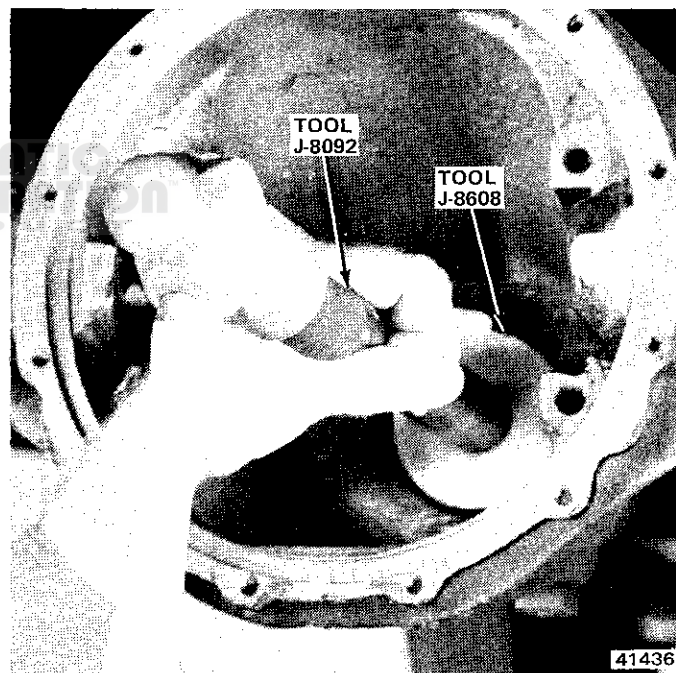

Fig. 2F-37 Pinion Rear Bearing Cup Installation
(4) Install rear bearing on pinion gear using arbor press. Install bearing so large diameter of bearing cage faces gear end of pinion and press bearing against pinion head.
(5) Clean pinion bearing bores in axle housing thoroughly. This is important to obtaining correct pinion gear depth adjustment.
(6) Install starter pinion depth shim in housing rear bearing cup bore. Be sure shim is centered in bearing cup bore.
(7) Install rear bearing cup using Driver Handle J-8092 and Cup Installer J-8608 (fig. 2F-37).
(8) Install front bearing cup using Driver Handle J-8092 and Cup Installer J-8611-01.
(9) Install pinion gear. Be sure rear bearing is seated in rear bearing cup.
(10) Install front bearing, rear universal joint yoke, and original pinion nut on pinion gear. **Tighten pinion nut only enough to remove bearing end play.**
(11) Note pinion depth variance marked on pinion gear. If number is preceded by a plus (+) sign, add that amount (in thousands) to standard setting for axle model being overhauled. If number is preceded by a minus (-) sign, subtract that amount (in thousandths) from standard setting. Result of this addition or sub-
(12) Assemble Arbor Tool J-5223-4 and Discs J-5223-23 and install assembled tools in differential bearing cup bores (fig. 2F-38). Be sure discs are completely seated in bearing cup bores.
(13) Install bearing caps over discs and install bearing cap bolts (fig. 2F-38). Tighten bearing cap bolts securely, but not to specified torque.
(14) Install Gauge Block J-5223-20 (fig. 2F-38). Position block so that plunger is directly underneath gauge arbor and flat surface on opposite side of block is seated on end face of pinion.
(15) Assemble Clamp J-5223-24 and Bolt J-5223-29 and mount on axle housing (fig. 2F-38). Use one axle housing cover bolt to attach clamp to housing.
(16) Extend clamp bolt until it presses against gauge block with enough force to prevent gauge block from moving.
(17) Loosen gauge block thumbscrew to release plunger. When plunger contacts arbor tool, tighten thumbscrew to lock plunger in position. Do not disturb plunger after locking in place.
(18) Remove clamp and bolt assembly from axle housing.
(19) Remove gauge block and measure distance from end of anvil to end of plunger using 3 inch (7.62 cm) micrometer (fig. 2F-39). This dimension represents **measured pinion depth**. Record this dimension for assembly reference.
(20) Remove bearing caps and remove arbor tool and discs from housing.
(21) Remove pinion gear, rear bearing cup, and pinion depth shim from housing.
(22) Measure thickness of depth shim used in step (10). Add this dimension to measured pinion depth obtained in step (8). From this total, subtract desired pinion depth. Result represents correct shim thickness required.
(23) Following examples will illustrate procedure for determining correct shim thickness.